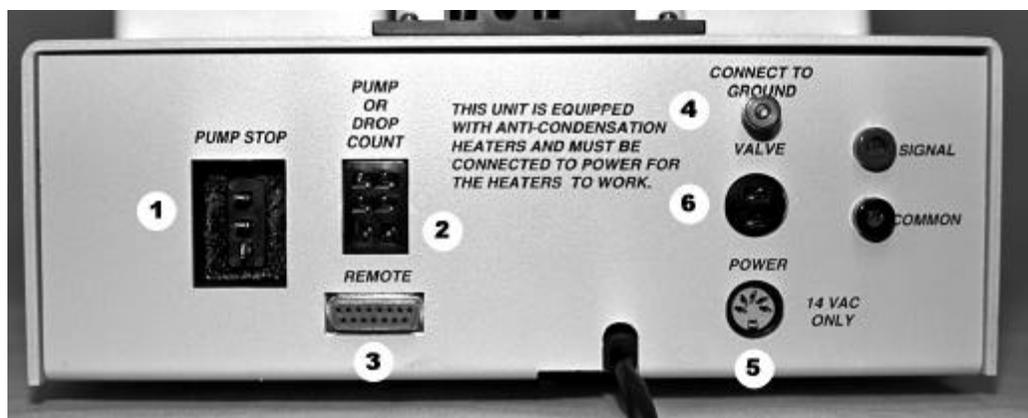

Figure 1-2. Rear Panel
To size samples based on the number of drops, the drop counter must be plugged in to the back of the Interval Sampler. It connects to the PUMP OR DROP COUNT connector (item 2 in Figure 1-2). The drop counter pump can only count 5 drops per second or less. If you will be pumping faster than 5 drops per second you will only be able to size samples by time or volumes. Press the **A** key to size samples by drop count.
If you are using a Spectra/Chrom[®] MP-1, or MP-2 Pump you can collect samples based on the number of pumped volumes. To do this you must use cable 123859 to connect the pump to the PUMP OR DROP COUNT connector on the back of the Interval Sampler (item 2 in Figure 1-2), and press the **C** key to select VOLUMES. The relationship between volumes and volume pumped may be found in the DIRR for your pump or in Section 6.10 of this DIRR.